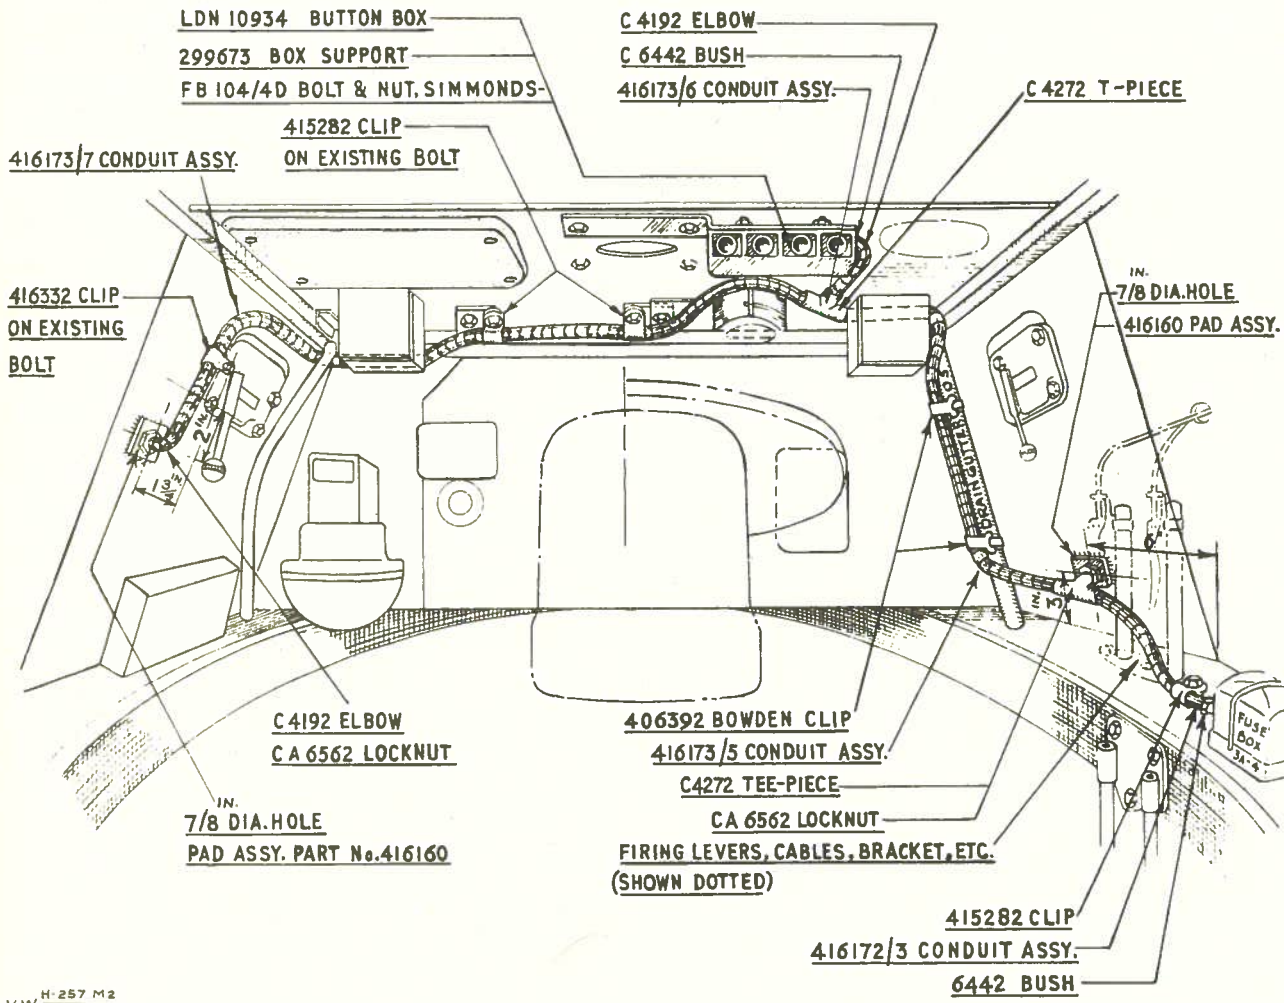

Fig. 3 - Interior view of turret, looking forward
- (b) Refer to Fig. 3. Remove and discard the firing levers, cables and support bracket from the inside of the turret. Replace the support bracket securing bolts in the turret ring.
- (e) Refer to Fig. 3:-